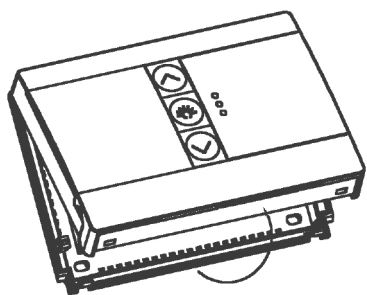

Figure 2.
- Remove the wall plate from your thermostat by pressing the release tab on the bottom of the thermostat. See Figure 2.